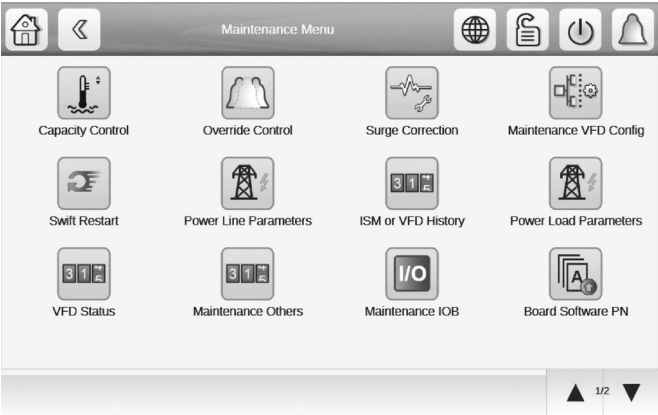

Fig. 35 — Maintenance Menu Calibration, Page 1
- Go to **Main Menu** → **Maintenance Menu** → **Temp Sensor Calib**. See Fig. 35 and 36.